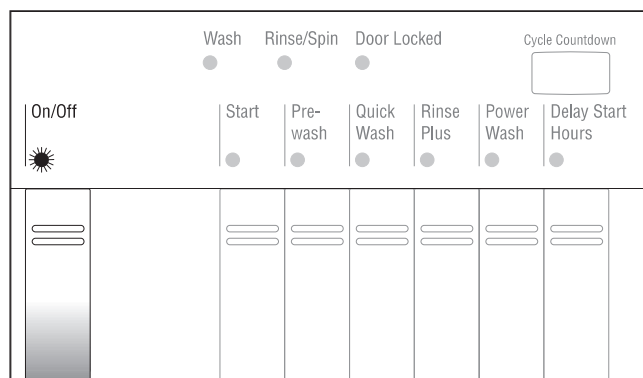

Figure 7.
- II. Press the “ON/OFF” button (Figure 7, below). The “ON/OFF” indicator light will become illuminated and the “START” indicator light will begin to flash.